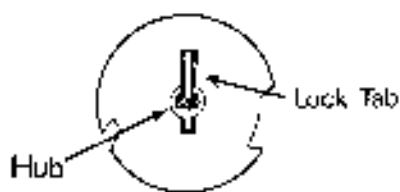

Fig. 6
2. Locate the hub at the center of the cam (See Fig. 6).
3. With the hub facing you, slowly slide the cam onto the front shaft of the vend motor while depressing the lock tab. (See fig.6).